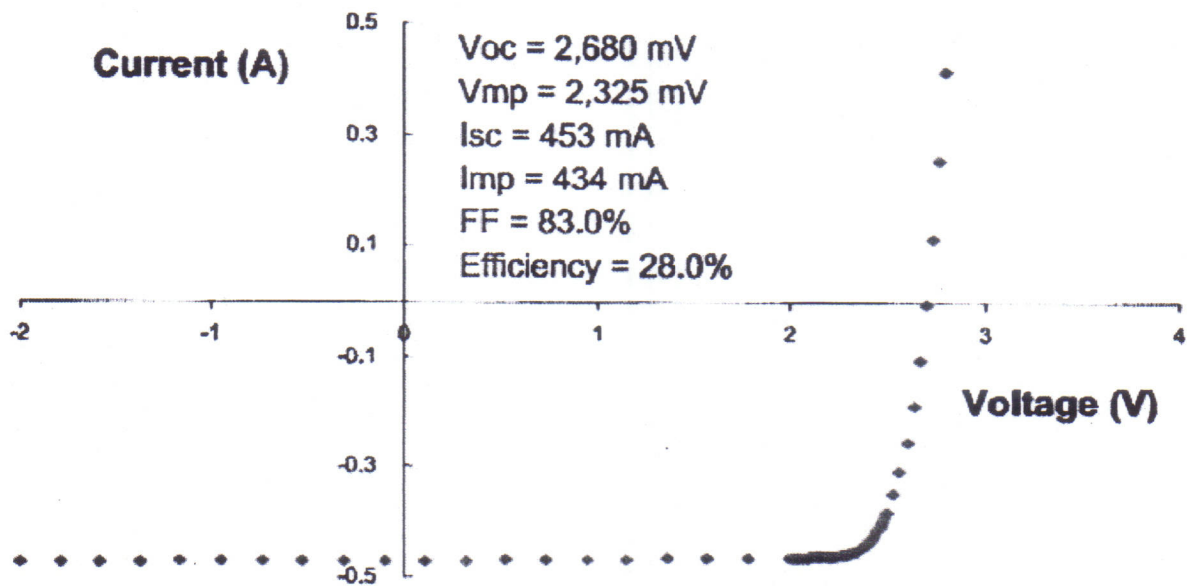

Figure 1: Solar Cell Specs
1. We used a high efficiency Triple-Junction with Monolithic Diode solar cell to receive the laser communication. The Performance data is shown in Figure 1.